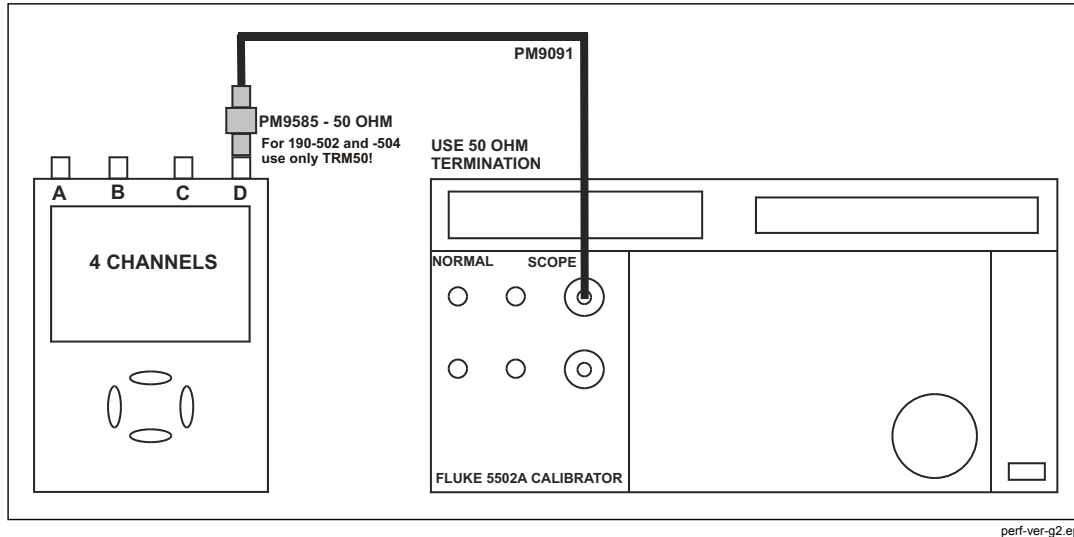

Figure 4-10. 5502A Scope Output to Test Tool Input D
- Connect the Test Tool to the 5502A as shown in Figure 4-10.
1. Connect the Test Tool to the 5502A as shown in Figure 4-10.